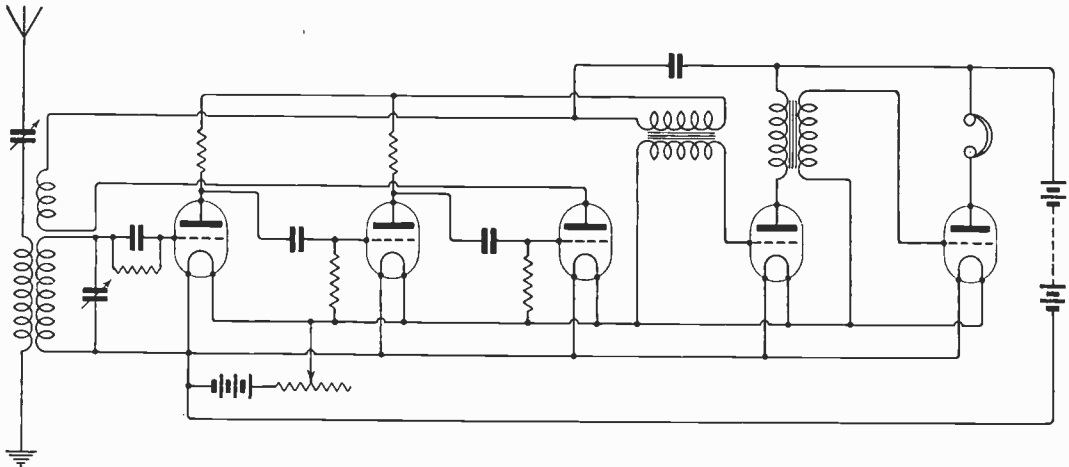

Fig. 1.
"P.R.T." (Southport).—(1) and (3) The circuit is incorrect; see Fig. 1, page 303, June 3rd issue, and many other recent diagrams for the correct arrangement of the valves. (2) About 0.0002 mfd. for short waves. (4) Not essential, but convenient if a large range of wavelengths is to be covered.
(1) See diagram Fig. 1. (2) The set is O.K. for the purpose, except that the reaction coil should be in series with the anode resistance and not in shunt across it.